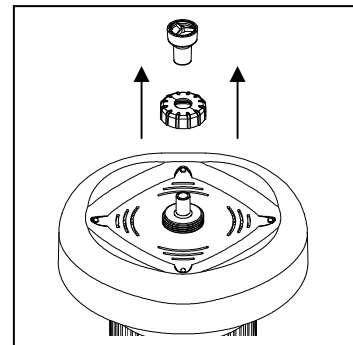

Fig. 8
4. Remove the fountain head and the top locking nut. Then remove the top cover. Fig. 8